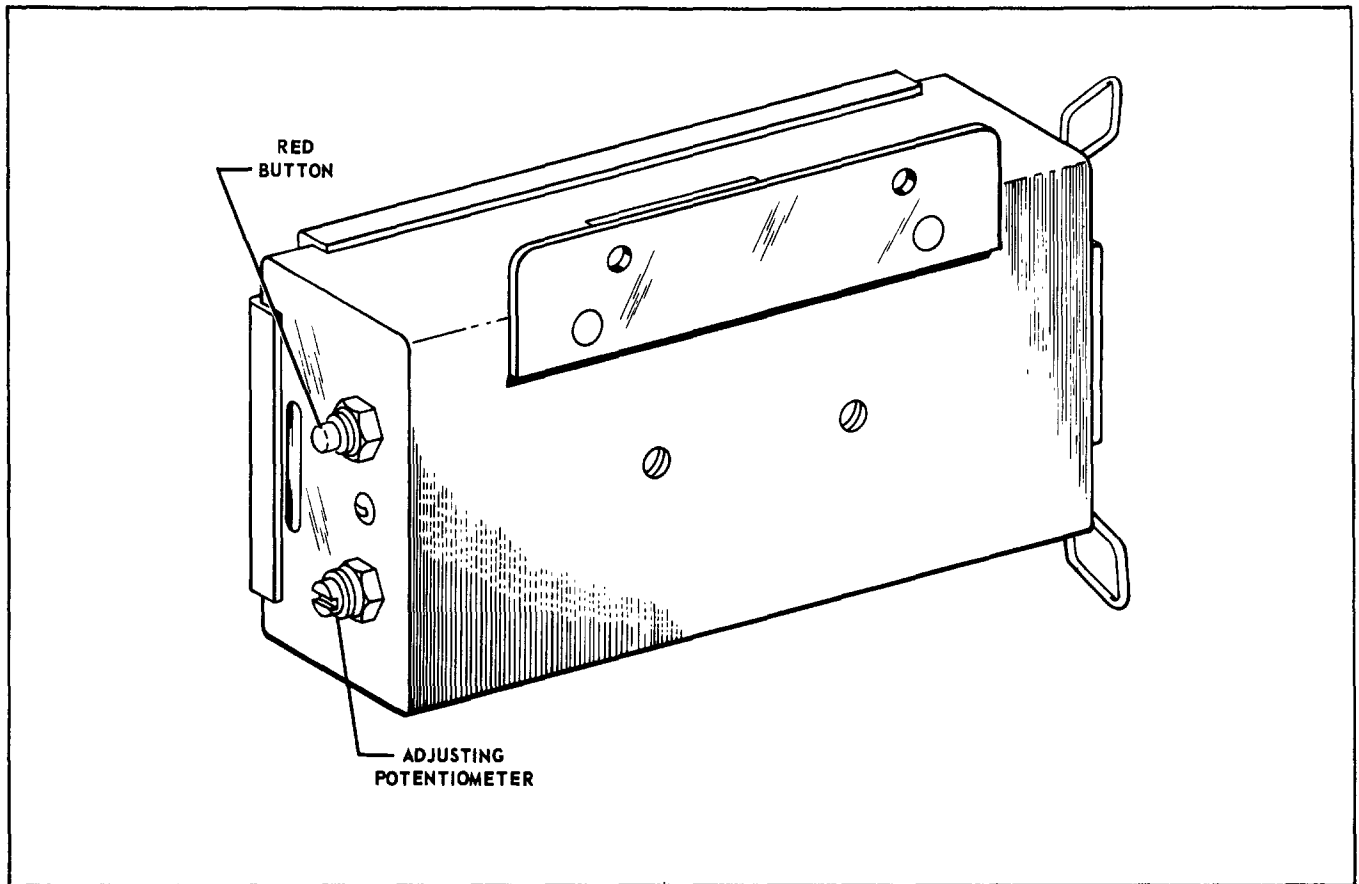

Figure 11-1. Glide Slope Coupler
11-1. INTRODUCTION. The information in this section will list the equipment necessary to bench check the Glide Slope Coupler and the proper procedure for connecting this equipment. The bench set-up procedure is also described. For red button and adjusting pot location on Glide Slope Amplifier, refer to Figure 11-1. For functional ground and flight checks, refer to Section X. For Schematics, refer to paragraph 11-4 of this section.
36. Rotate slot head potentiometer on glide slope coupler full clockwise. (Refer to Figure 11-1.)